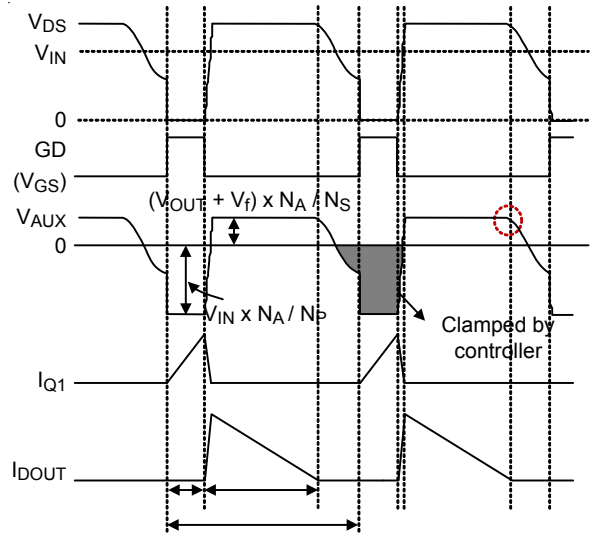

Figure 3. Key Waveforms of a Flyback Converter
The RT7302 needs no shunt regulator and opto-coupler at the secondary side to achieve the output current regulation. Figure 3 shows several key waveforms of a conventional flyback converter in Quasi-Resonant (QR) mode, in which V_{AUX} is the voltage on the auxiliary winding of the transformer.